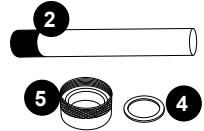

FIGURE 7
- Remove the quartz seal compression nut (5) by turning it **counterclockwise**, Figure 5. Use a pair of channel-lock pliers if needed, Figure 6. You will notice that there is a stainless steel compression washer (4) which slides over the quartz tube, save the washer (4) for later use, Figure 7.
- Now you are ready to clean or replace the quartz tube (2). For cleaning the quartz tube (2), follow steps 7 and 8 then proceed from step 9. For replacing quartz tube (2), skip steps 7 and 8 and proceed from step 9.